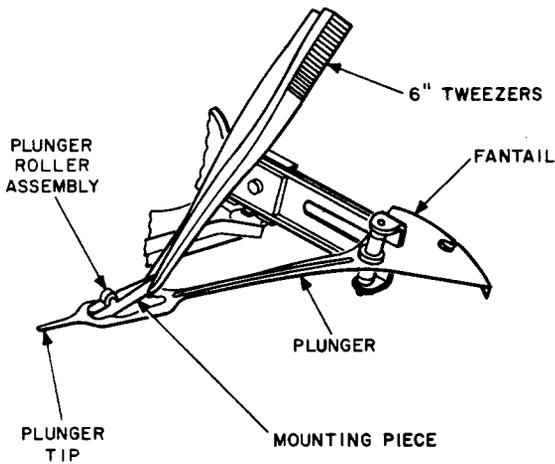

Fig. 14 — Method of Replacing Plunger Roller Assembly
3.02 Plunger Roller Assembly (Fig. 14):
- (a) To remove the plunger roller assembly, press the free ends of the mounting piece together using the tweezers as shown in Fig. 14 and raise the ends above the plane of the plunger. Then withdraw the assembly by pulling it toward the fantail.